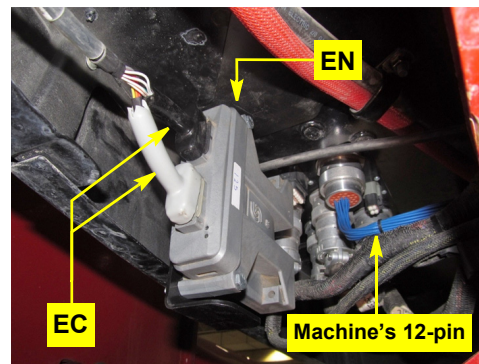
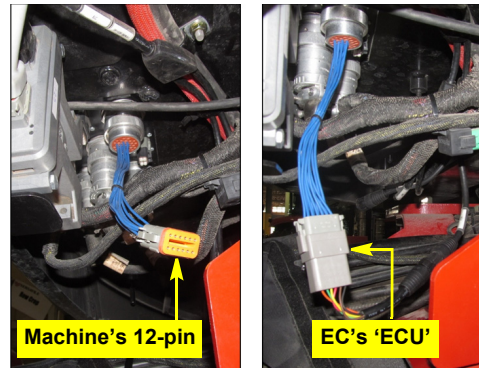

Figure 3d: Steering controller's main cable connected
Figure 3e: Machine's harness (L) to steering controller's cable 'ECU' (R)
- e. Under the cab, connect steering controller cable **EC**'s two 12-pin connectors (black and gray) to their respective sockets on steering controller **EN** (Figure 3d).
- f. From the cable connections cluster, locate the machine's 12-pin connector (the external continuation of the 12-pin cabling in step 3b—Figures 3d and 3e left image). Connect it to EC's branch cable labeled 'ECU' (Figure 3e right image).